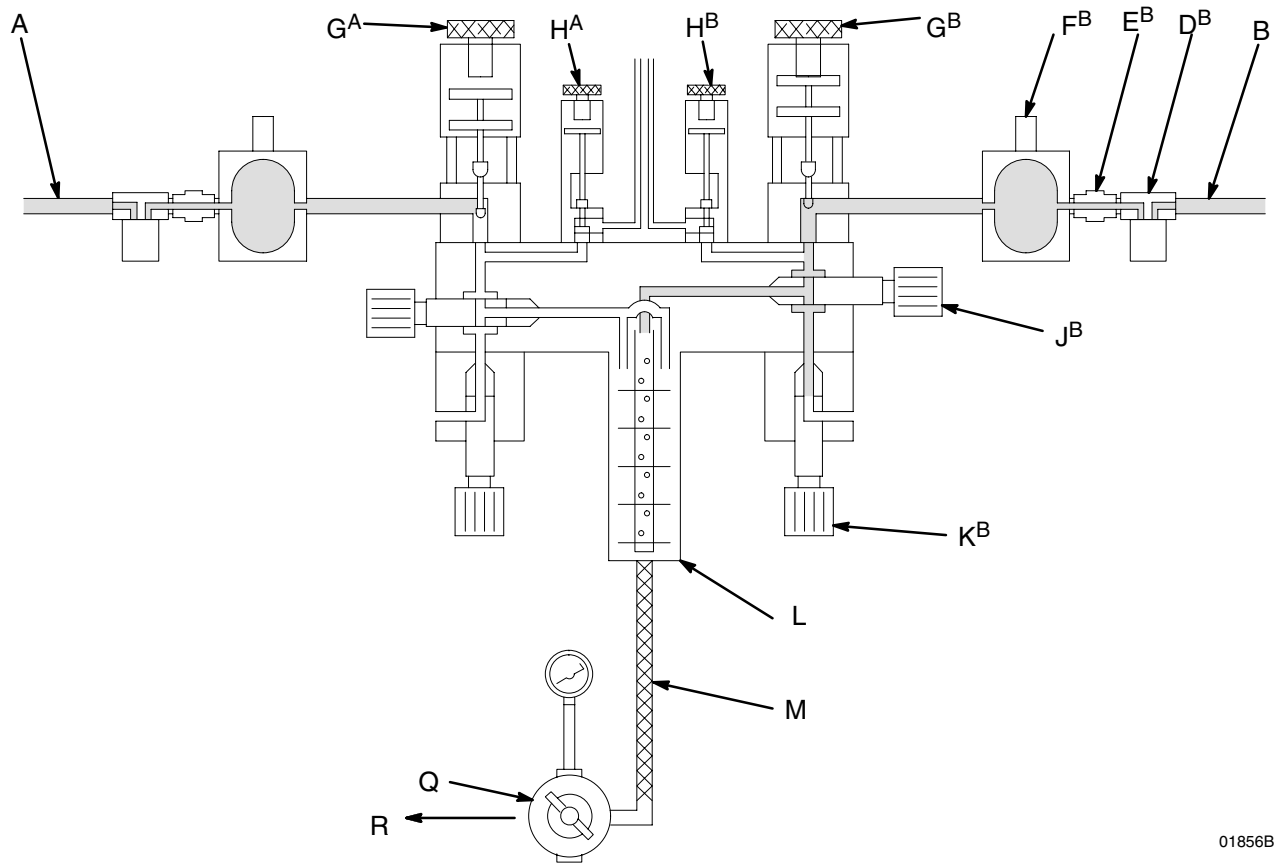

Fig. 2
- Next, the Component B (catalyst) dispense valve opens. The fluid begins to flow into the integrator chamber and is lined up proportionately with the previously-dispensed Component A sample. The B dispense valve closes when the target volume for Component B has been reached. See Fig. 2.
KEY for Fig. 2
- Next, the Component B (catalyst) dispense valve opens. The fluid begins to flow into the second integrator chamber and is lined up proportionately with the previously-dispensed Component A and C dose. The Component B dispense valve closes when the target volume for Component B is reached. See Fig. 2.